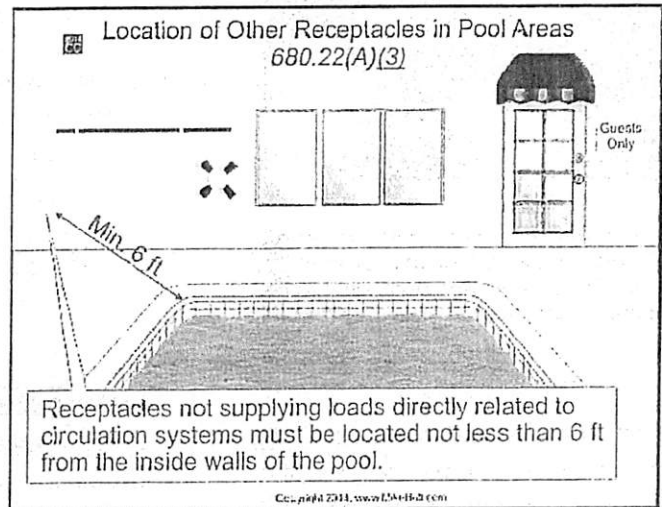

Figure 680-24
(3) Other Receptacles. Receptacles not for motors or other loads directly related to the circulation system must be not less than 6 ft from the inside walls of a permanently installed pool, outdoor spa, or outdoor hot tub. Figure 680-24